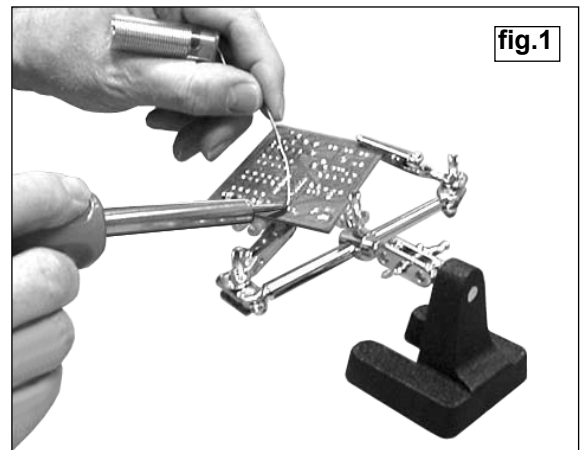

fig.1
- 3.5 **Holding the work.** Ensure that the items to be soldered are readily accessible and firmly held. The stand provided can be used to hold two items together for soldering leaving both hands free to manipulate the iron and the solder. (See fig.1)
- 3.6 **Soldering.** Bring the soldering iron and the solder to the joint simultaneously. (See fig.1) Leave the iron on the joint just long enough to melt the solder so that it flows onto the two parts to be joined. Remove the iron and place it on the stand. Leave the joint to cool.
- 3.13 **Holding/preparing the work.** Ensure that the items to be joined are clean and securely held together. The stand provided can be used for this purpose (See fig.1) Where possible a good joint will more easily be obtained if the items to be joined are tinned separately first.